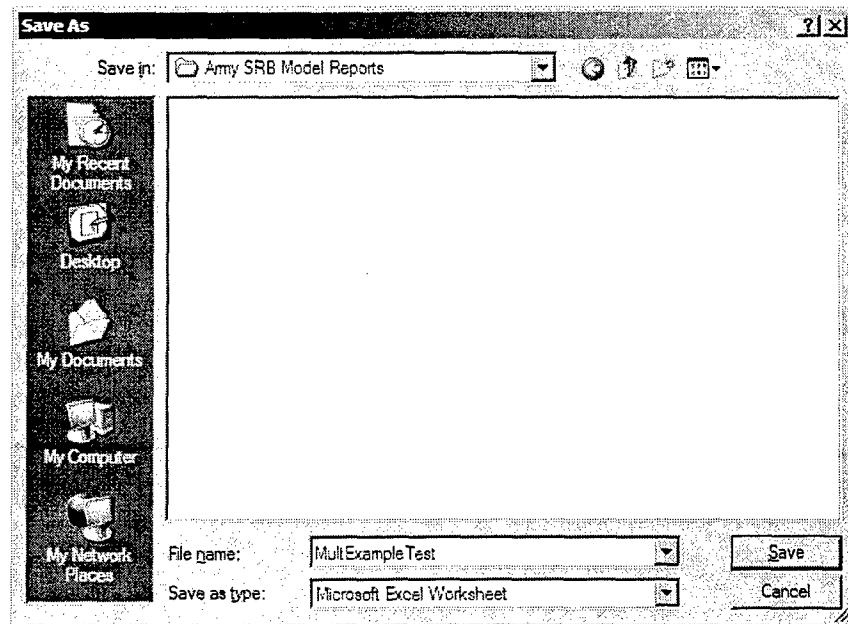

Figure 51. Multiplier Level Report Export Save to Disk
5. When you save the workbook, you may also choose a different name by overwriting the default name in the File Name box (see Figure 51).